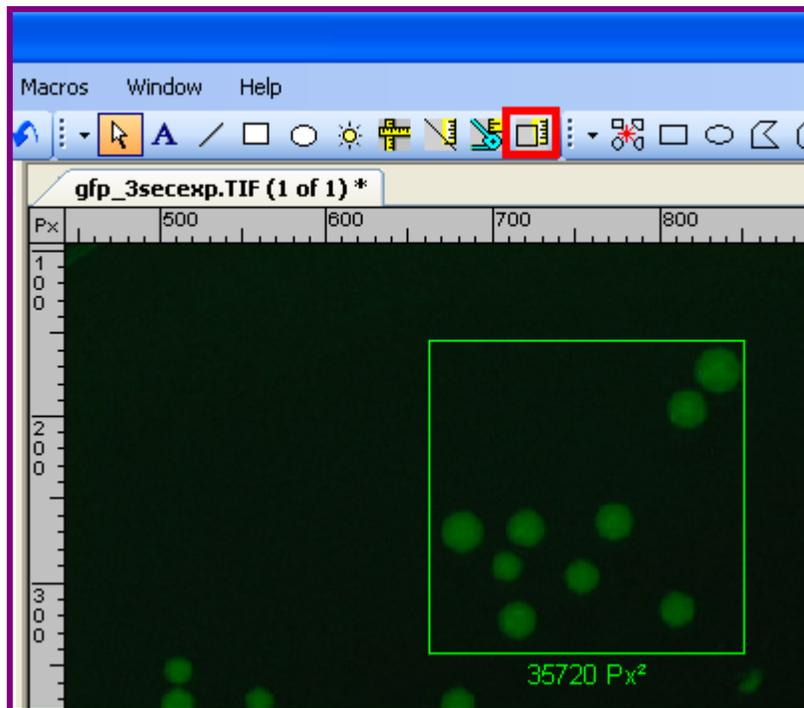

Fig. 6 – Measure Area
Using the “Measure Area” tool, it is possible to measure the area of a particular region within an image. To measure area within an image (Fig. 6):
- Click the “Measure Area” button in the “Annotations” toolbar (shown in the red area in Fig. 6).